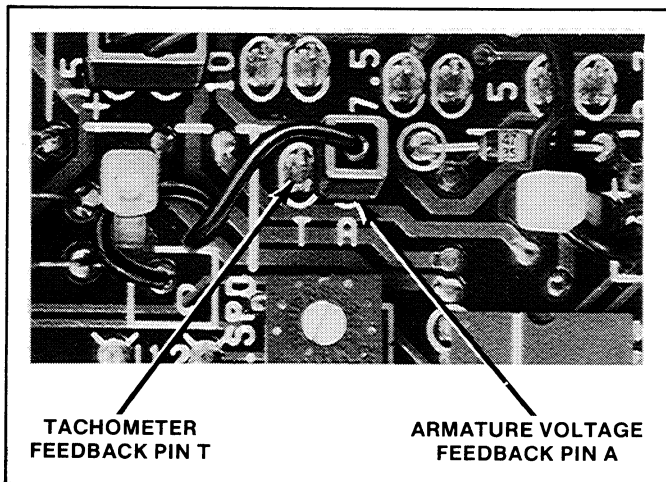

Figure 3.5. Tachometer feedback jumper on Regulator Module.
Step 3 — The Feedback Jumper on the Regulator Module must be connected for tachometer feedback. (Refer to Figure 3.5.) Place the Regulator Module's fixed black jumper on the pin marked T.